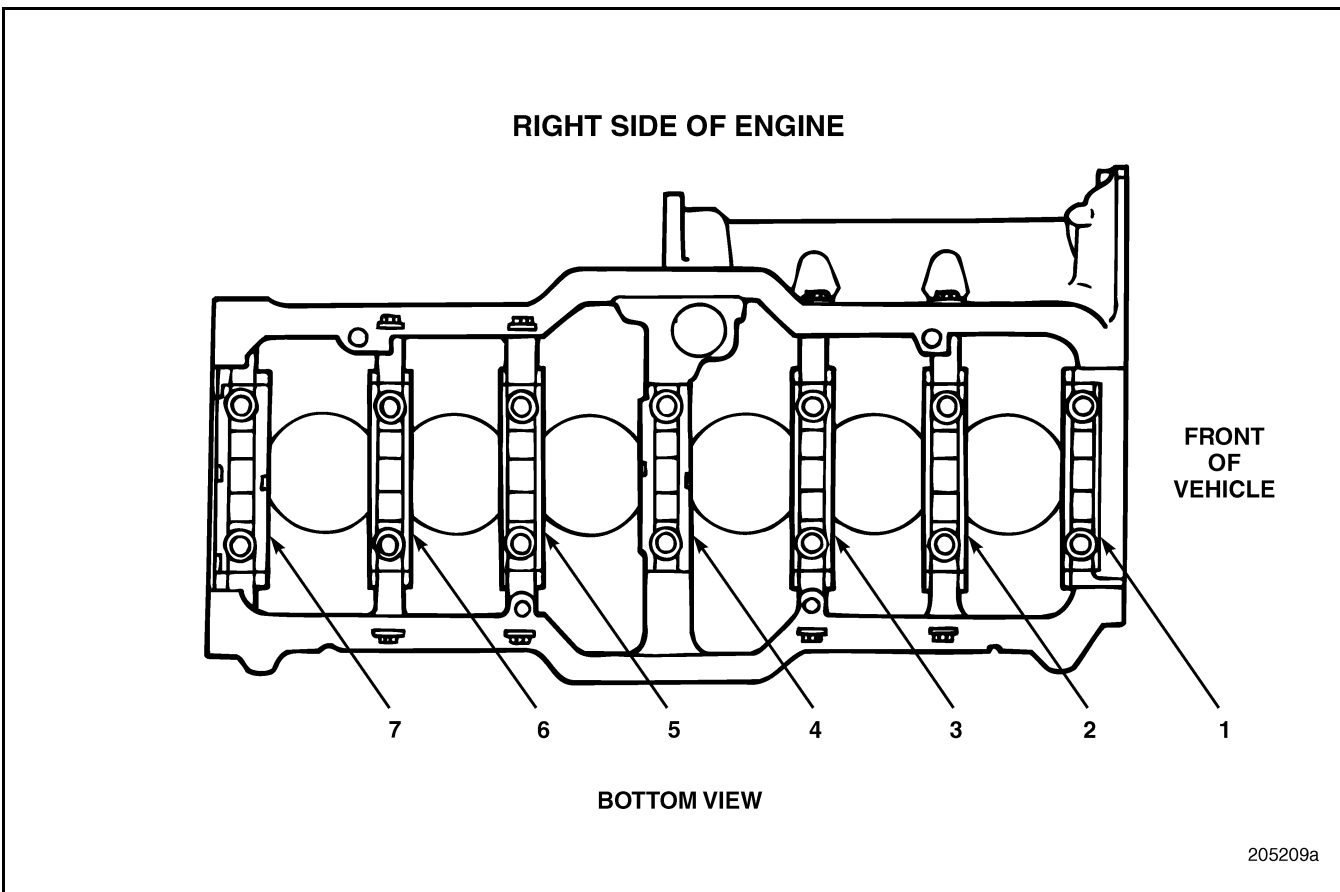

Figure 233 — Main Bearing Insert Part Numbers and Locations
- Repeat the previous step to install the remaining upper inserts. Refer to Figure 233 for the part number and location of each bearing insert.